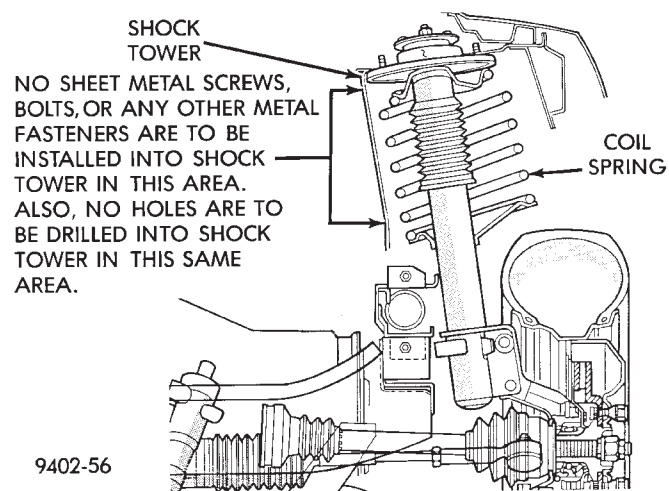

**Fig. 1 Strut Tower To Coil Spring Minimum Clearance Area (Typical)**
**CAUTION:** At no time when servicing a vehicle, can a sheet metal screw, bolt or other metal fastener be installed in the shock tower to take the place of an original plastic clip. Also, NO holes can be drilled into the front shock tower in the area shown in (Fig. 1), for the installation of any metal fasteners into the shock tower.
Because of the minimum clearance in this area (Fig. 1) installation of metal fasteners could damage the coil spring coating and lead to a corrosion failure of the spring. If a plastic clip is missing, or is lost or broken during servicing a vehicle, replace only with the equivalent part listed in the Mopar parts catalog.